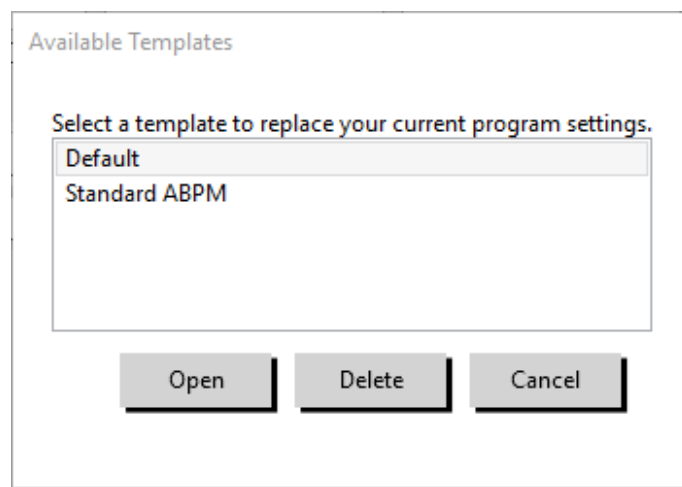

Figure 4: Available Templates Window
3. A new window **Patient Information** (Figure 4) will appear. Enter patient information.